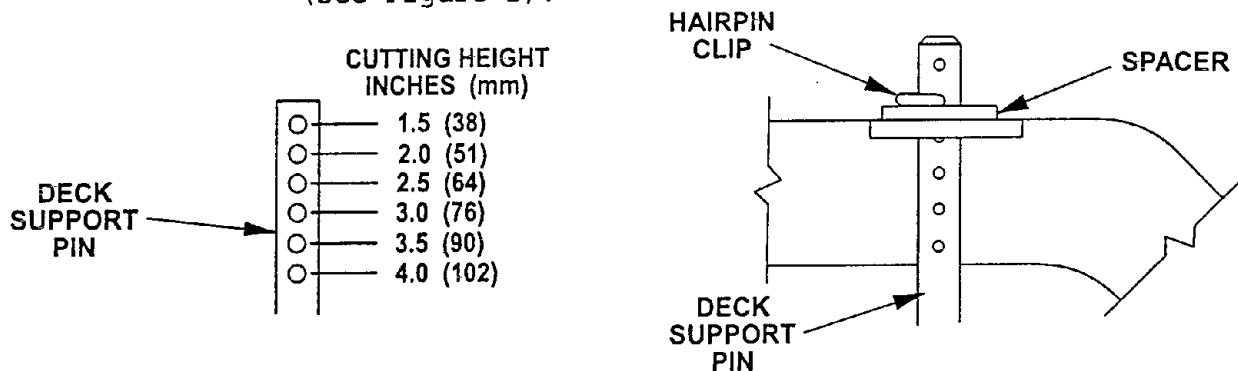

FIG. 2
- c) Raise deck and insert hairpin clip into the correct support pin holes to give the desired cutting height (See Figure 2).